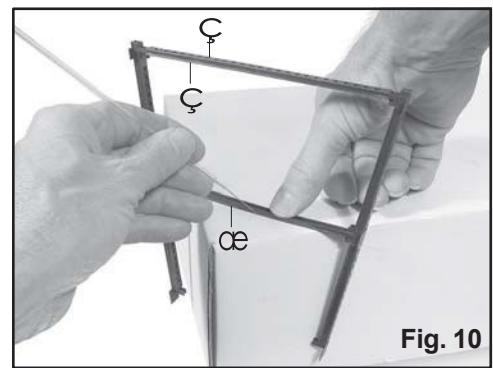

Fig. 10
Hang the bent assembly over the corner of the work table with part (5) or (6) between the work surface and the bent assembly. See Fig. 10. When cementing, use tweezers to hold the bent struts against the raised ribs of part (5) and (6) to prevent the bent struts from bowing. **Tip:** Cement part (5) or (6) to the top of the bent strut first. This will make it easier to center the bottom part on the bent strut.